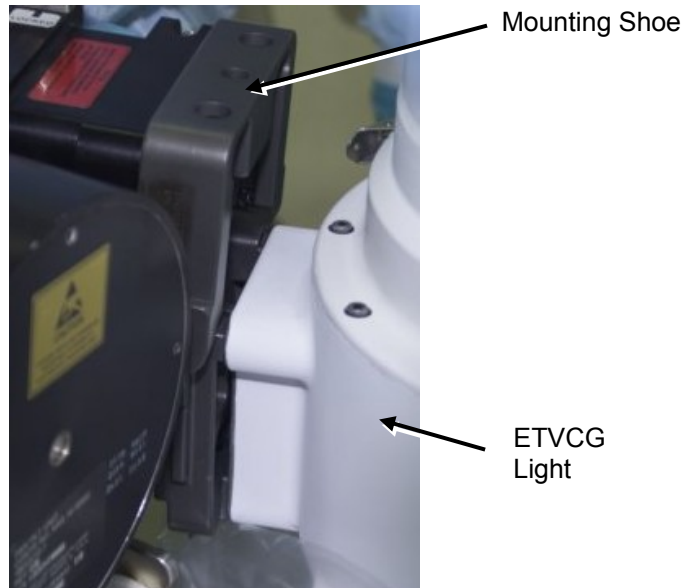

Figure 1.- ETVCG Light Bracket and Mounting Shoe.
- 1.4 Remove ETVCG Light by sliding away from Mounting Shoe. Refer to Figure 1.